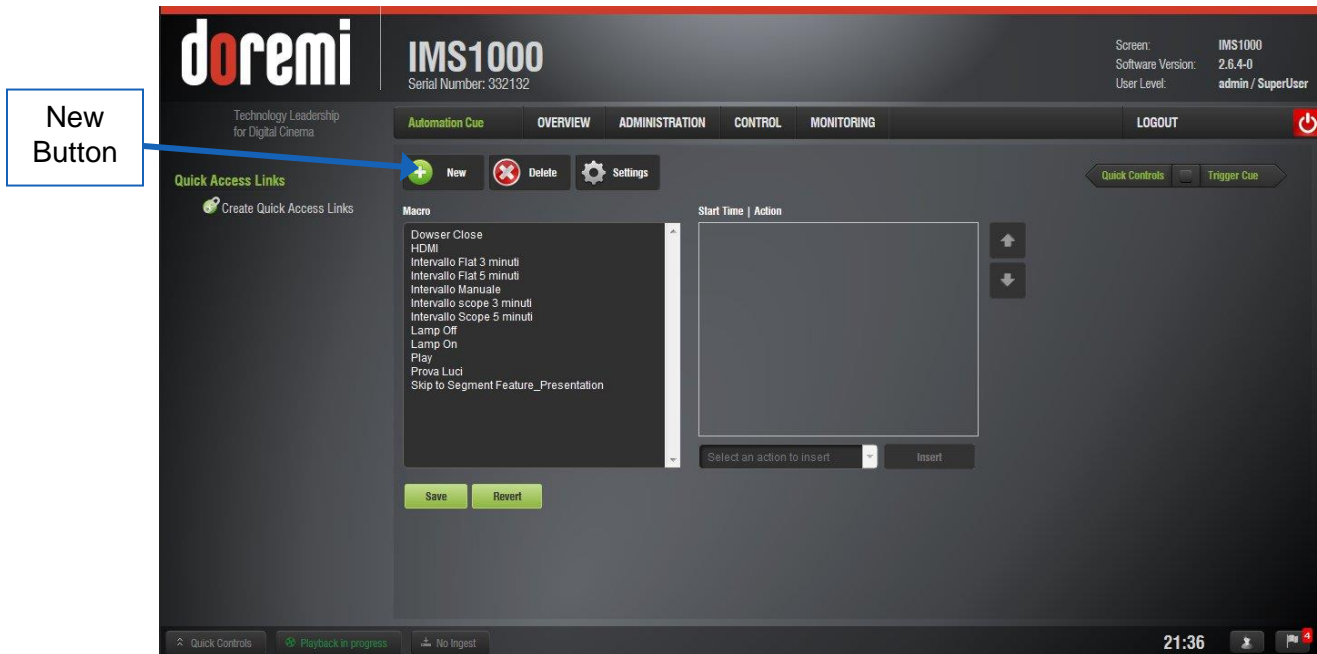

Figure 258: Macro Editor
- In Macro Editor, click on the New button (Figure 258).